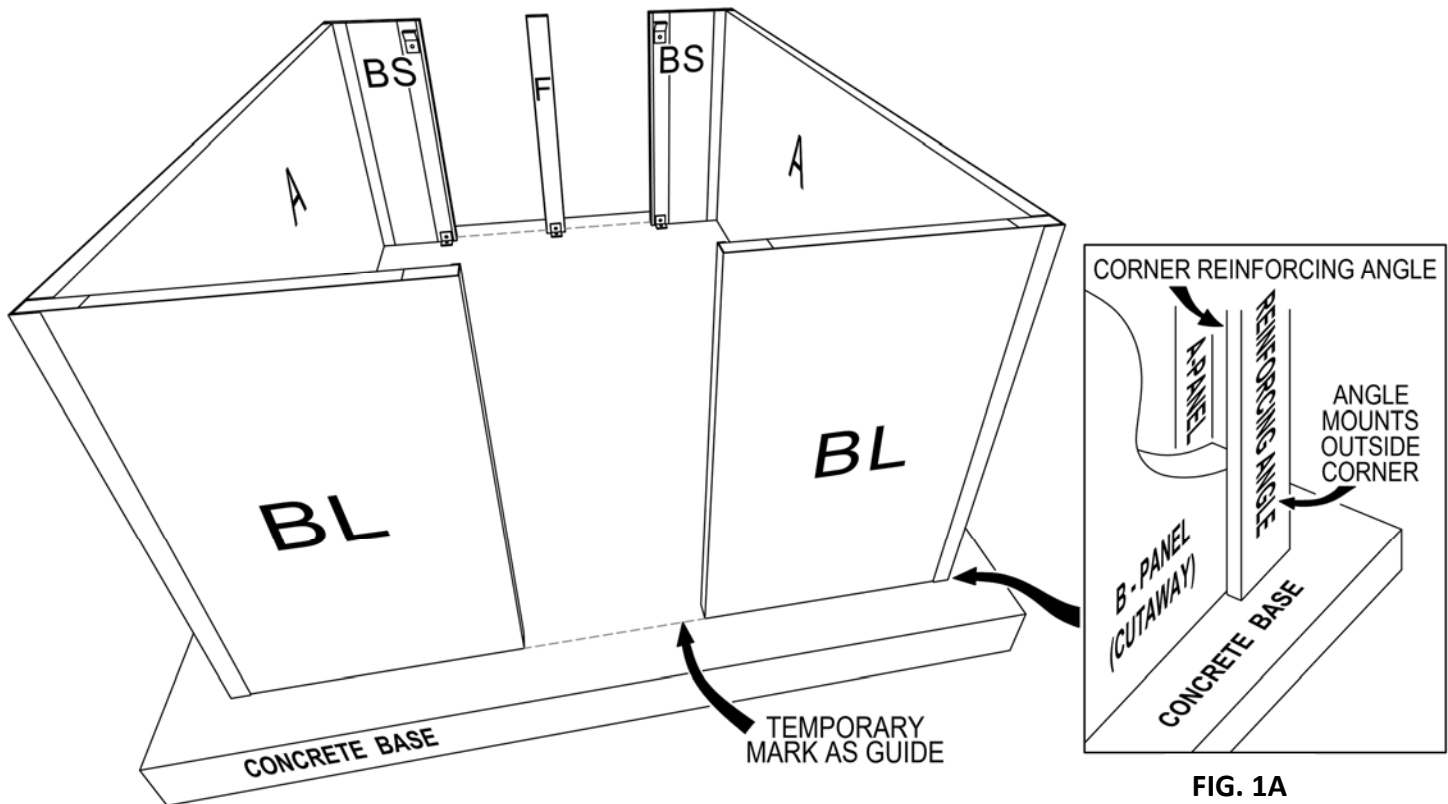

FIG. 1
4. Assemble the "BS-A-BL" (corner-end-corner) assemblies through the holes provided using Hex Head Screws. (For best results, insert a bead of silicone caulk into the inside bend of the "A" panel corners.) Set them on the marked concrete base (Fig. 1).